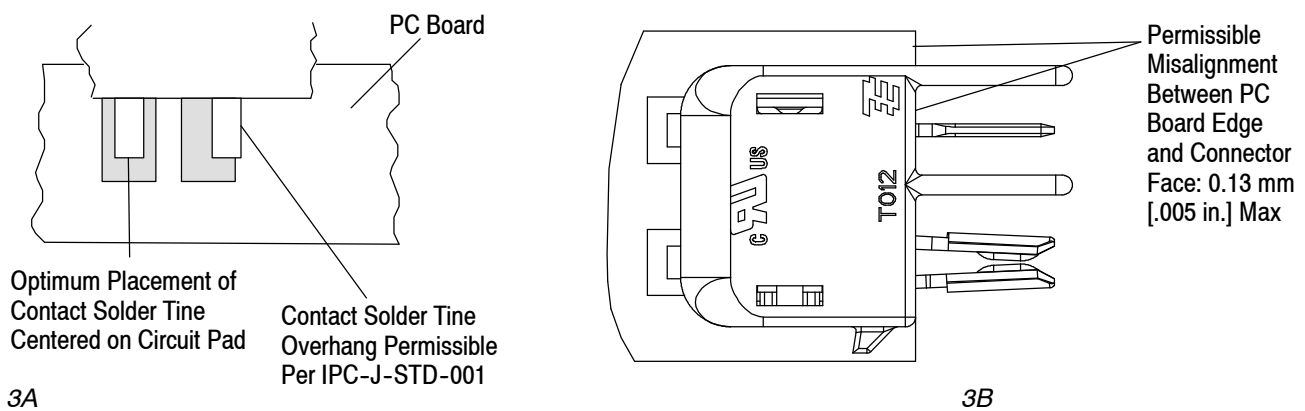

Figure 3
- Changed callout in Figure 3 and added new NOTE in Paragraph 3.8
This product is packaged in SMT tape and reel packaging per ANSI/EIA Std 481-B. Robotic/gripper placement requires total equipment accuracy of 0.25 mm [.010 in.] to locate the connector for insertion. This includes gripper and fixture tolerances, as well as equipment repeatability. Insertion location will be programmed by a simple pantograph/template system or software package. Optimally, the contact solder tines should be centered on the pc board pads. However, slight misalignment is permissible for the performance classifications specified in Association of Connecting Electronics Industries IPC-J-STD-001, "Requirements for Soldering Electrical and Electronic Assemblies." See Figure 3.